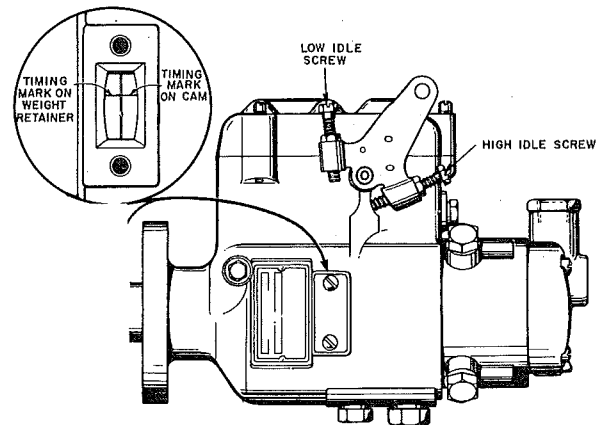

FIG. 58—TIMING MARK AND THROTTLE SCREW LOCATION
l. Adjust test stand speed to high idle speed (3150 rpm) and adjust the high idle screw (Fig. 58).
m. Set to low idle (500 rpm) (Fig. 58).